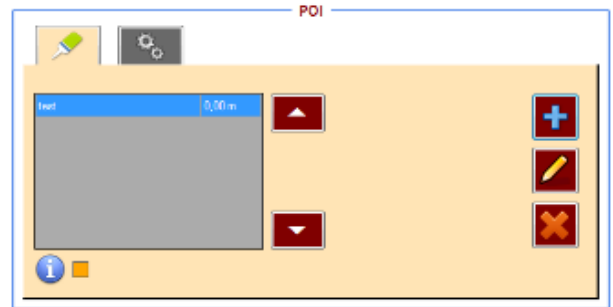

Figure 99 POI menu
2. Tap in the **POI**-screen (Figure 99) on the  key to add a point of interest. A new screen will occur (Figure 100).
The marked position is stored under the current loaded field. Thus, after reloading the field, the added points of interest are automatically loaded and visualised. In the table view of the POI menu the points of interest are ranked on distance. Therefore, the nearest point of interest is visualised at the first row in the table (Figure 99).